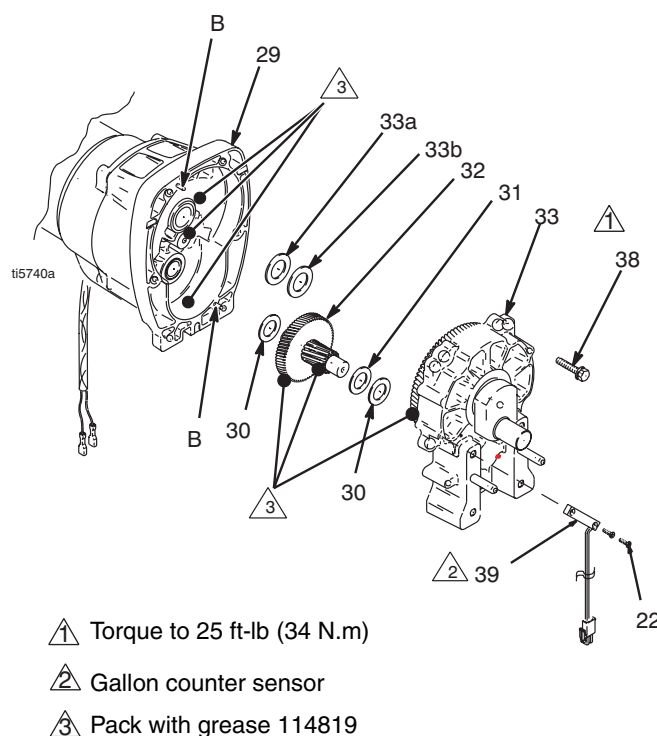

FIG. 2
1. FIG. 2. Apply all grease supplied with replacement gear cluster to gear cluster (32) and to areas called out by note 3.